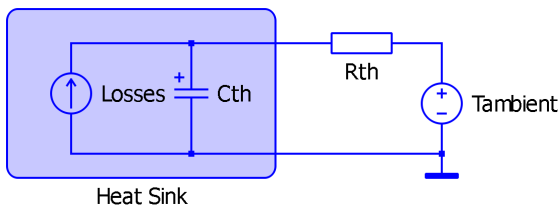

Figure 2: Electrical equivalent of thermal circuit
To perform a thermal simulation using PLECS, three components are needed: a Heat Sink, semiconductor component(s) with a thermal description and an Ambient Temperature. The thermal simulation takes place at the same time as the circuit simulation but the thermal components are represented in PLECS in a separate domain. The thermal quantities and their analogous electrical equivalents are given in Table 2. In the analogous electrical circuit, conduction losses of a component are modeled as an ideal current source, the thermal impedance between the component and air as a simple resistor or RC chain, and the ambient temperature as a voltage source. This equivalent circuit is shown in Fig. 2.
- 1 For this next step you will need to take a screenshot image of **Figure 2** for importing into the Thermal Editor. An image file `C3M0065090J_datasheet_figure2_conduction_loss_25C.png` has been provided already. Highlight the 25°C temperature row and click on the  button in the top-right corner of the plot area.